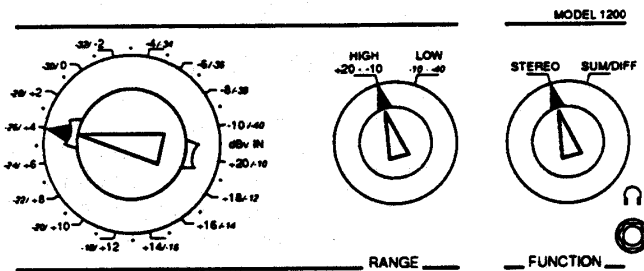

Fig. 3. Initial control settings on Model 1200.
4. On the front panel, set the FUNCTION control to STEREO and position the RANGE attenuator control to +4 dB, as shown in Fig. 3. Make sure the HIGH/LOW range control is set to HIGH.